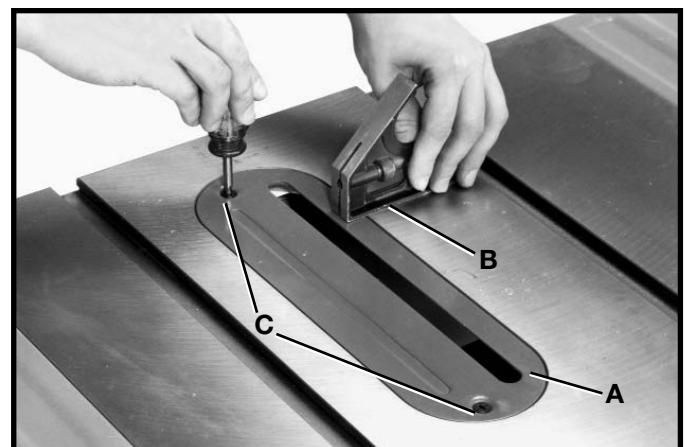

Fig. 47
The table insert (A) Fig. 47, should be adjusted so it is flush with the saw table surface. Place a straight edge or square (B) on the saw table extending over the insert, as shown. If an adjustment to the insert is necessary, tighten or loosen the two adjusting screws (C).